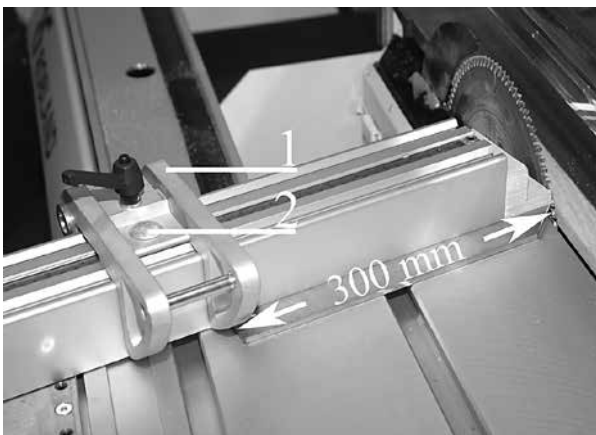
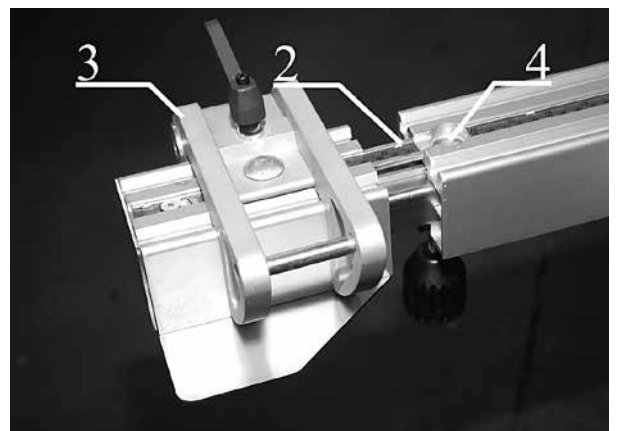
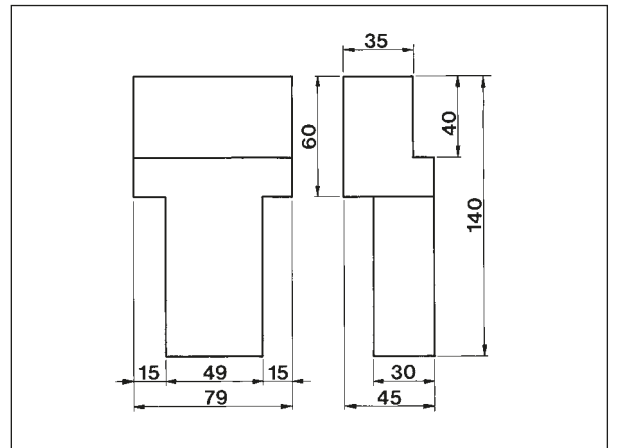

Fig.19
Fig.20
Fig.22
Each and every time changing a blade with different specifications it is vital to calibrate the scale of the length supported guide according the following application. Block the knob (1) with the 300 mm piece and adapt the graduated scale till obtaining 300 mm in the lens.(fig. 19,2) Continue the same way with the digital stop option, pressing << SET >> and the stop will be automatically adjusted. Test the setting, making a little cut just to verify. For the work with the telescopic extension of the guide (permitting to cut at approximately 3000 mm), place the knob (fig. 20-21,3) on the exact measurement of 2050 mm, so that the scales corresponds on the two different parts. The reading can be done on the index (fig. 20,4), on the fixed part of the length supported guide. To verify if the effective measurements correspond to the regular dimensions mentioned in the index; continue with a test, placing the two knobs at a certain dimension and check if the maintained measurements correspond with the ones of the index. When, after some time, the wooden splitter protection cap at the front on the cross-cut fence is cut away, a new one has to be made according diagram fig. 22